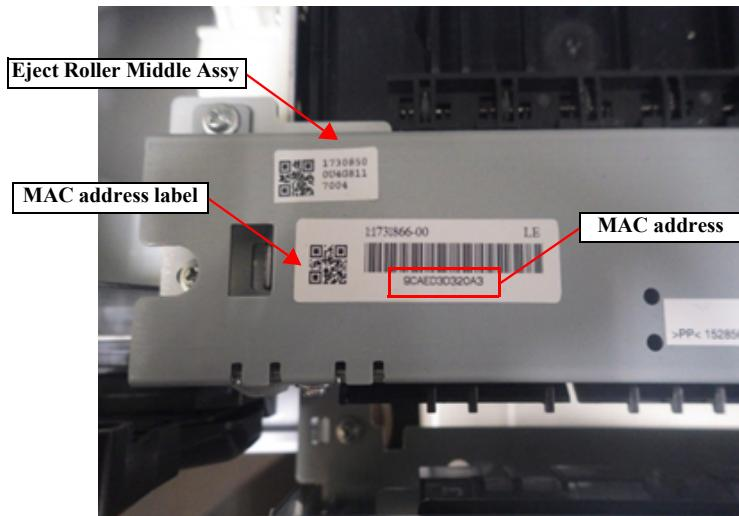

Figure 4-97. MAC address label
5. Refer to Figure 4-97, and input the MAC address written on the label pasted on the printer.